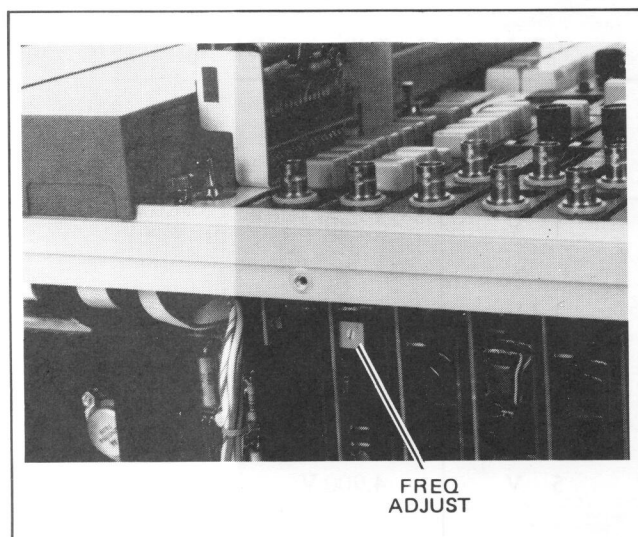

Figure 5-16. Calibrator Circuit Frequency Adjustment
- b. Adjust the trimmer labeled FREQ on Calibrate/Servo PCA A7 (see Figure 5-16) for a 500 ± 5 Hz indication on the counter.